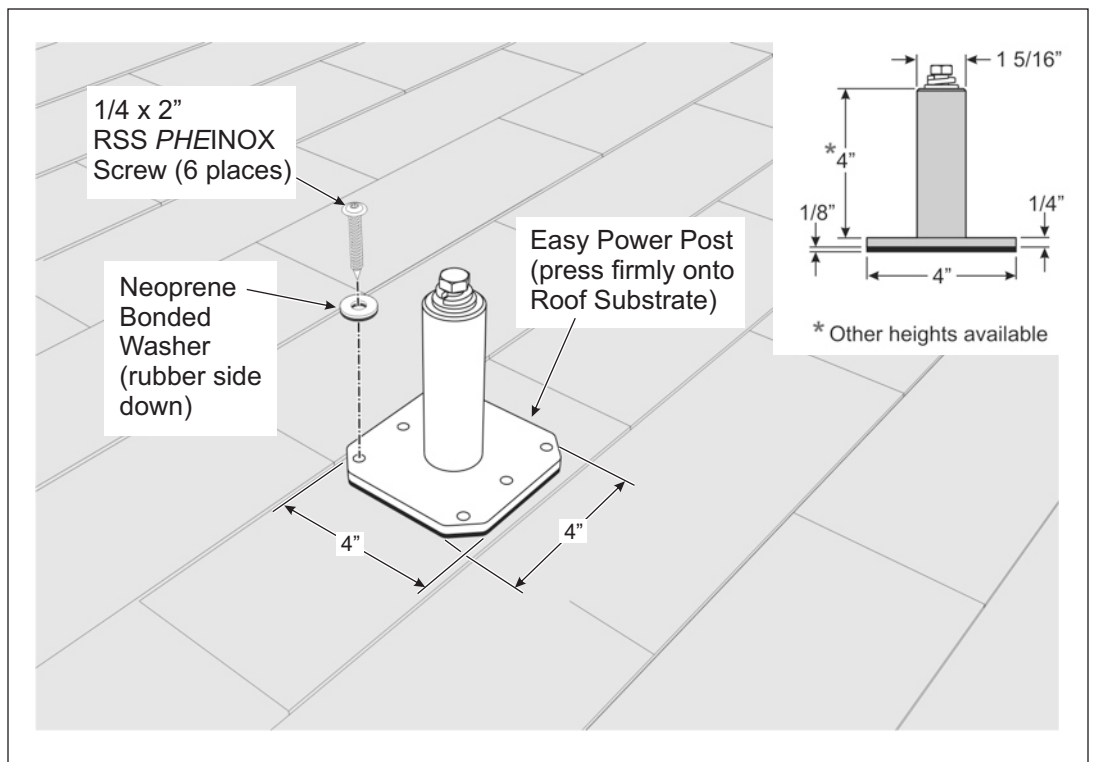

Figure 2: Securing the Easy Power Post to Roof
- B. Align the Easy Power Post to the substrate and press firmly, sticking it to the substrate. (See Figure 2)
- C. Install the neoprene bonded washers onto the RSS *PHEINOX* screws with the rubber side down. (See Figure 2)